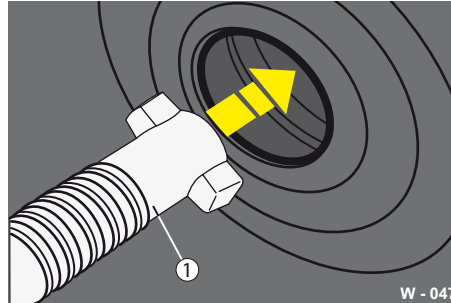

Fig. 47 "Keyhole" aperture
- ▶ Insert the release screw (Fig. 47/1) through the hole in the cover at the back into the "keyhole" aperture.